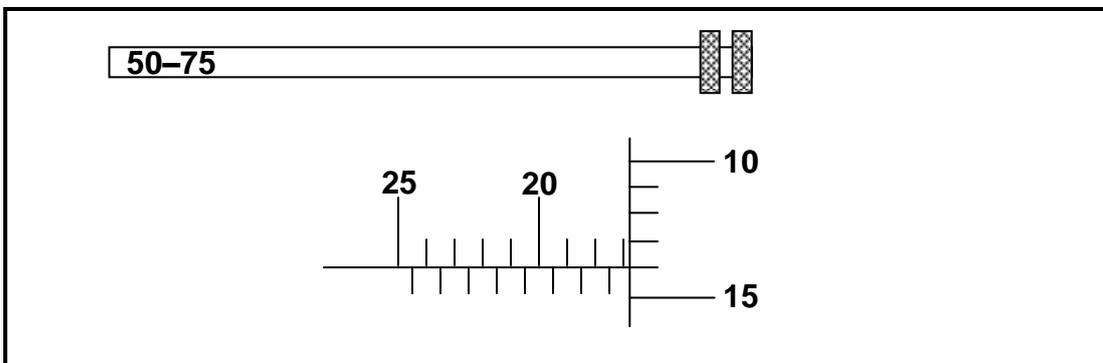

FIGURE 7.4
7.4 What is the reading on the depth micrometer as shown in FIGURE 7.4 below?